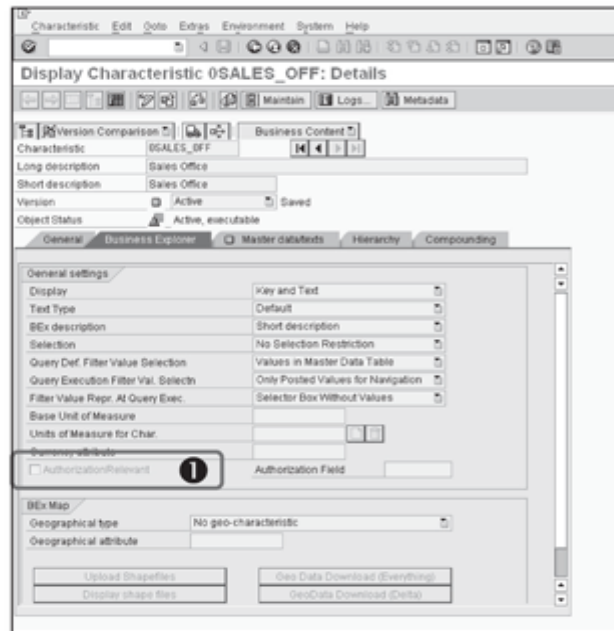

Figure 14.41 Authorization Relevant InfoObject
The first step is to define the InfoObject as relevant for authorization. Use Transaction RSD1, and go to the InfoObject maintenance screen in the Business Explorer tab. Define the authorization-relevant characteristics. This will enable authorizations on characteristic values, for example, OSALES_OFF (❶ of Figure 14.41).